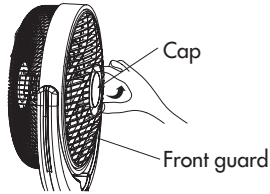

Figure 10.
- a) First, turn the cap counter-clockwise to remove the cap from the fan. (Figure 10)